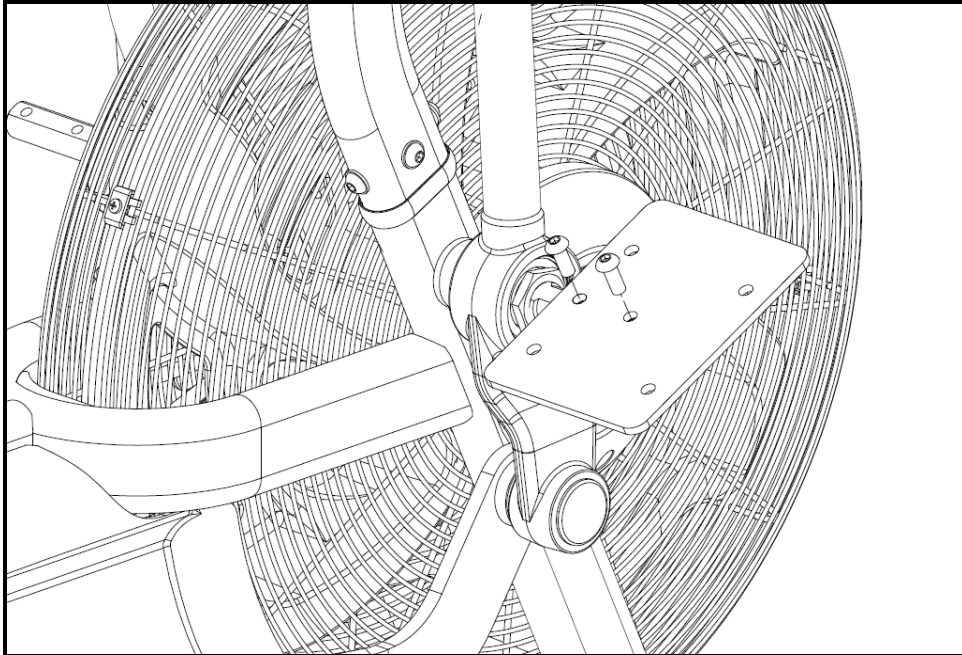

Fig. 2
2. Remove the foot stand plate (Fig. 2) by extracting the two securing button head bolts using a 4mm hex key.